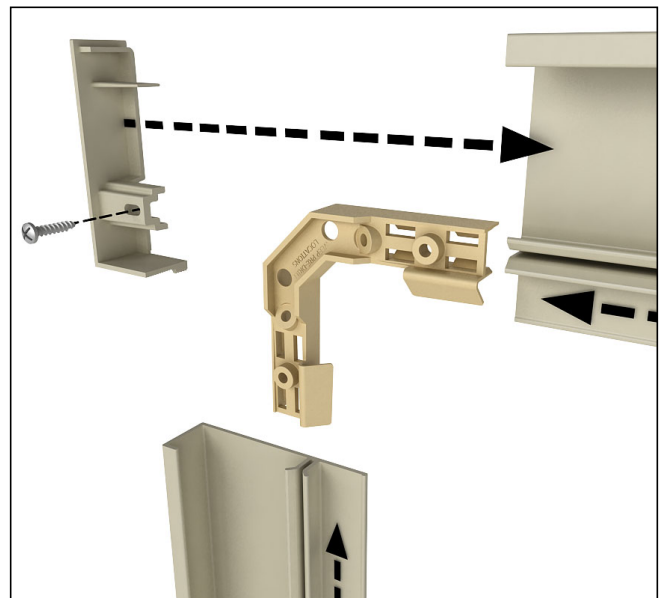

Figure 22
2. Secure end caps to casing with supplied screws. Align casing with tab on end caps and align all joints. See *figure 22*.